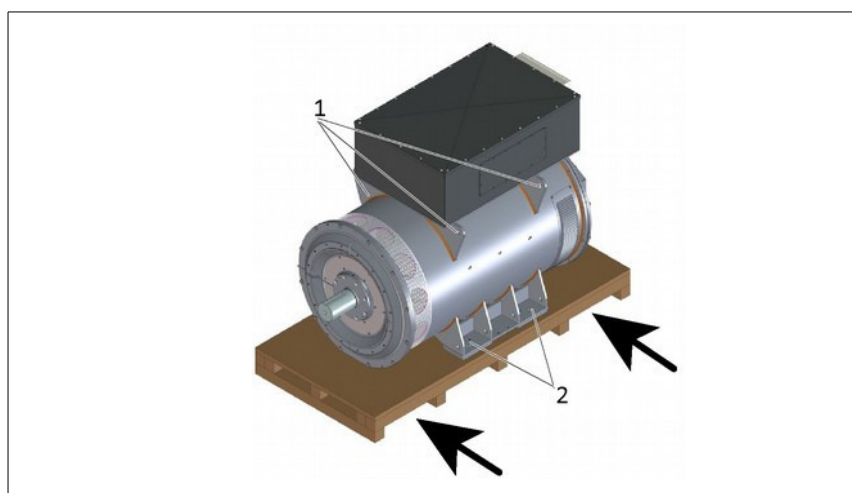
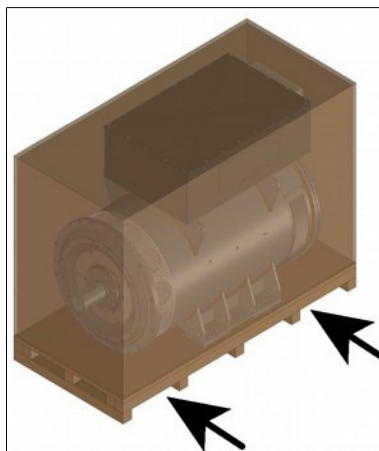

Figure 8- Transport on pallet
Figure 9- Transport on pallet covered with crate
- 1- Using a wooden pallet (Figure 8-)
- 2- By means of a pallet covered with a wooden crate in the case of shipping by sea (Figure 9-).
→ Handle as shown in Figure 8- and Figure 9- .